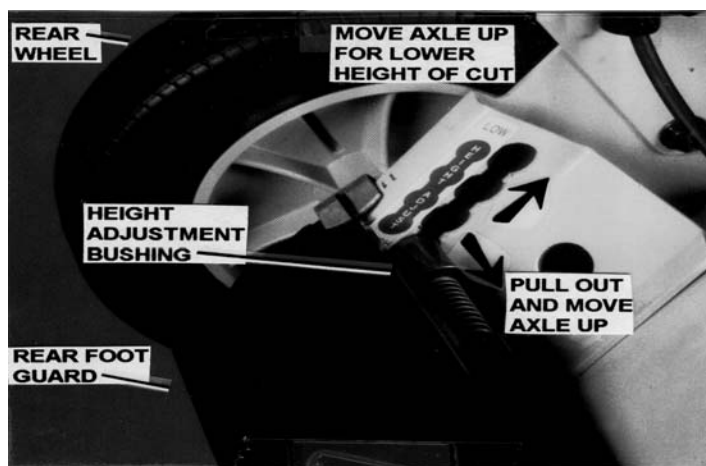

FIGURE 13
2. Reposition the rear axle by raising the rear wheels off the ground, then pull in on one of the spring loaded bushings until it clears the bracket. Move to the desired height of cut position and release the bushing. Repeat the same procedure on opposite end of axle. See Figure 13.